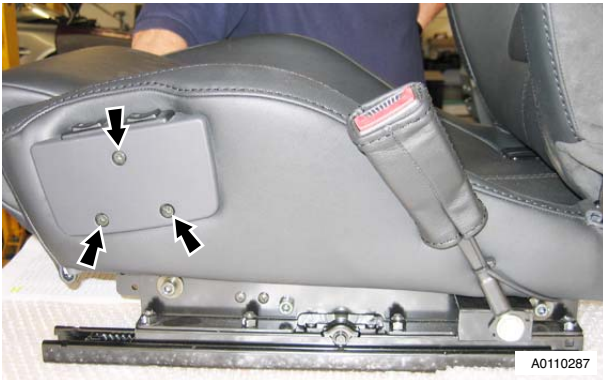

Figure 1
2. Remove release lever (see Figure 1).